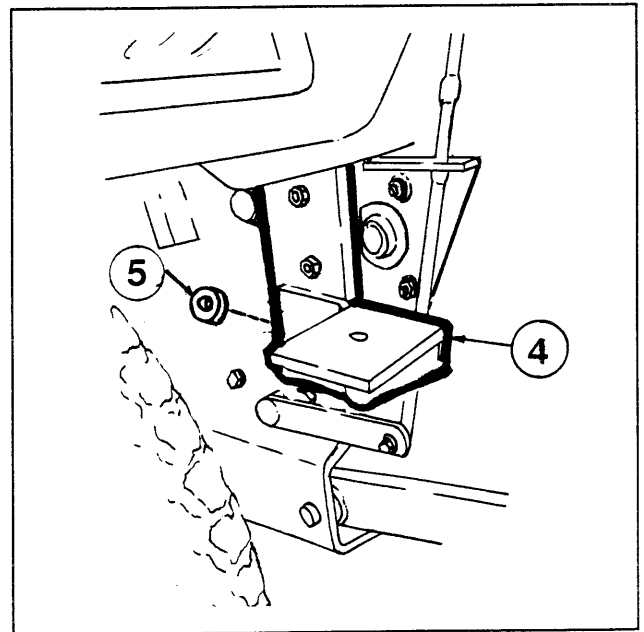

Figure 2
6. Remove the front two $\frac{3}{8}$ "o.d. factory bolts of the four-hole bolt pattern on each side of the transmission housing, used to fasten the 3-pt. arms. Take the rear bracket (4) and line up the top two holes of the bracket with the factory $\frac{3}{8}$ " o.d. boltholes. Loosely bolt the bracket to the transmission housing using the $\frac{3}{8}$ "x1 $\frac{1}{2}$ " hex, bolts, hex nuts, and lockwashers provided. Using the bottom hole as a guide, drill a $\frac{9}{16}$ " hole through the transmission housing. Position the rear bracket spacer (5) between the bracket and the housing and bolt the bracket to the housing using the $\frac{1}{2}$ "x1 $\frac{1}{2}$ " hex bolt, hex nut, and lockwasher provided (see Figure 2). Proceed to step 8.